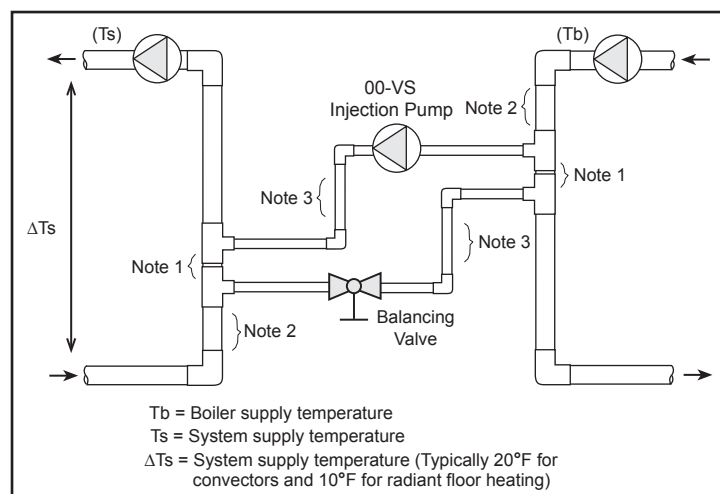

Fig. 1
When the injection pump is turned off, there must be no heat transfer from the boiler loop to the system loop. In order to avoid this unwanted heat transfer, primary/secondary piping techniques are used as shown in figure 1.
- 1) Determine the design operating temperatures of the system loop and boiler. ( $T_s$  and  $T_b$  from figure 1.)